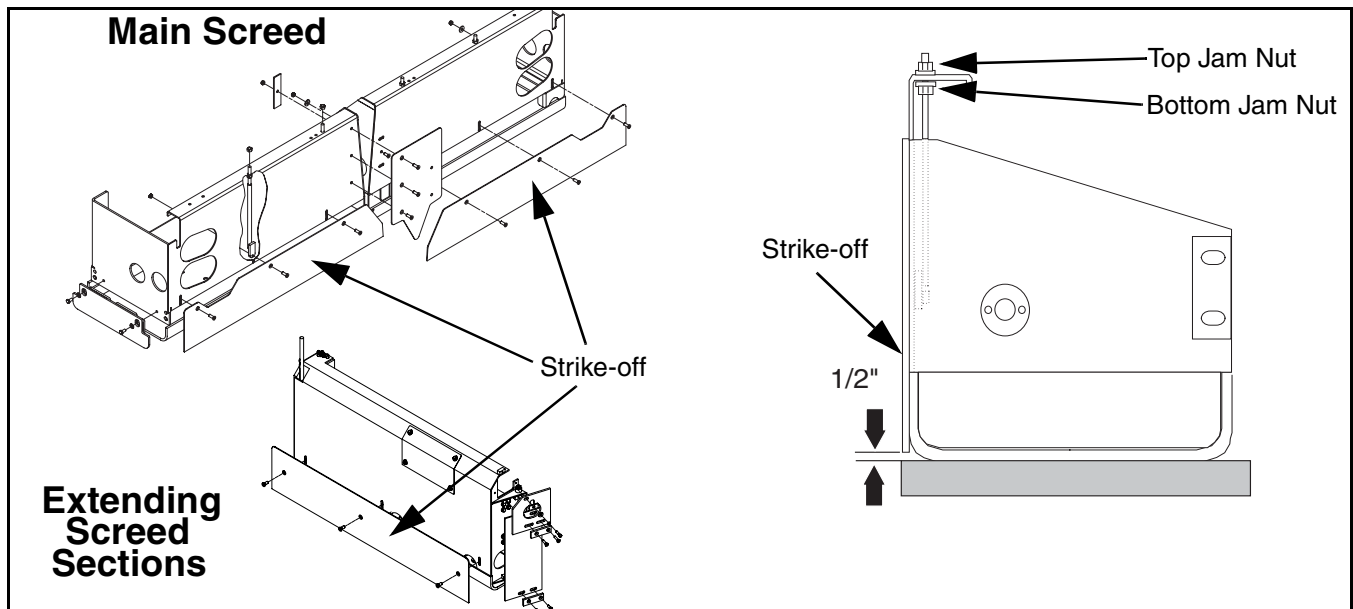

Figure 27 Strike-Off Adjustment
bottom. The normal strike-off setting is 1/2 inch above the screed bottom and will work fine with most material designs. (Figure 27) There are some material designs that will require changing the setting to allow the screed to run with the desired 1/8 inch to 1/4 inch nose-up attitude or angle of attack.
- 1) Place a straight edge against the bottom of the screed and measure from the straight edge to the bottom of the strike-off. (Figure 27)